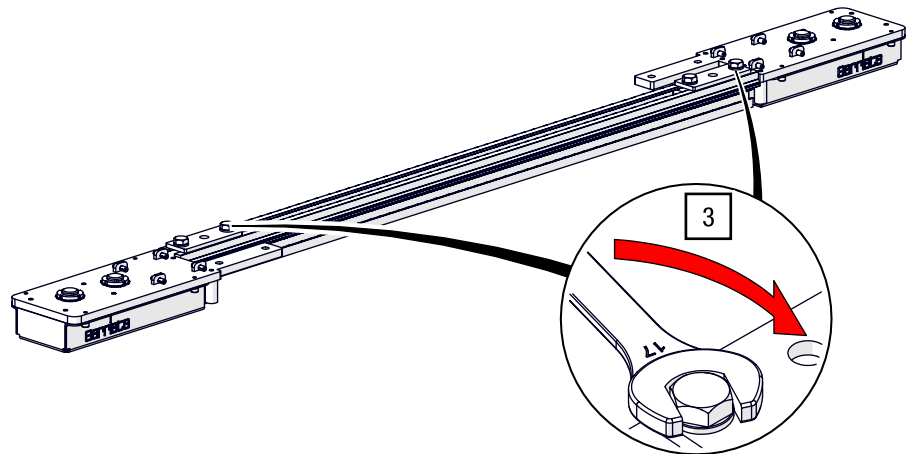

Fig. 60: Crossover unit – Connect deflection units with the overlap profile
3. Tighten the screws on both deflection units (see Fig. 60).